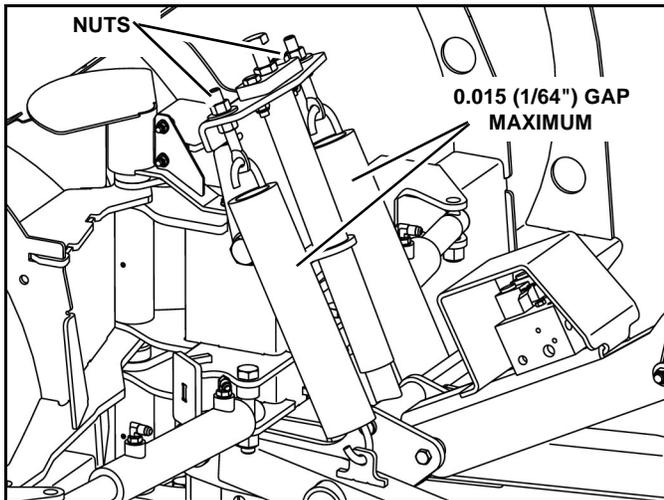

Figure 1-16
3. Check to make sure that the springs are installed as illustrated. (See Figure 1-16).
4. Loosen the lower jam nut on each eyebolt. (See Figure 1-16).